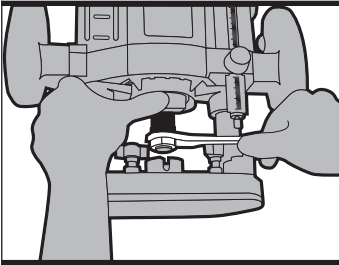

Fig 3
-Loosen the collet nut using the spanner provided press in the spindle lock button and insert the required router bit. See Fig3.